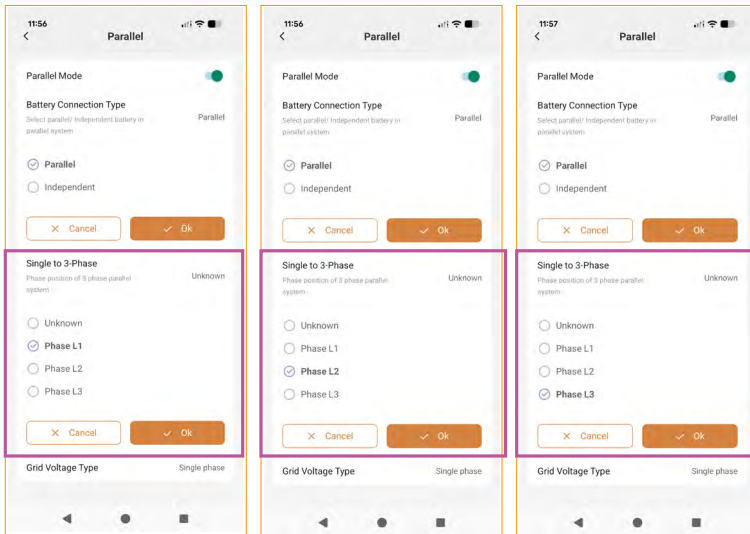

Figure 25. Left (a) - P1-Phase L1. Centre -(b) P2-Phase L2. Right -(c) P3-Phase L3
Step 4. Set the phase position accordingly: Go to **Setting > Inverter > Parallel > Single to 3-Phase. Notice that all three inverters should be set in this step. See Figure 25, (a)-(c).**